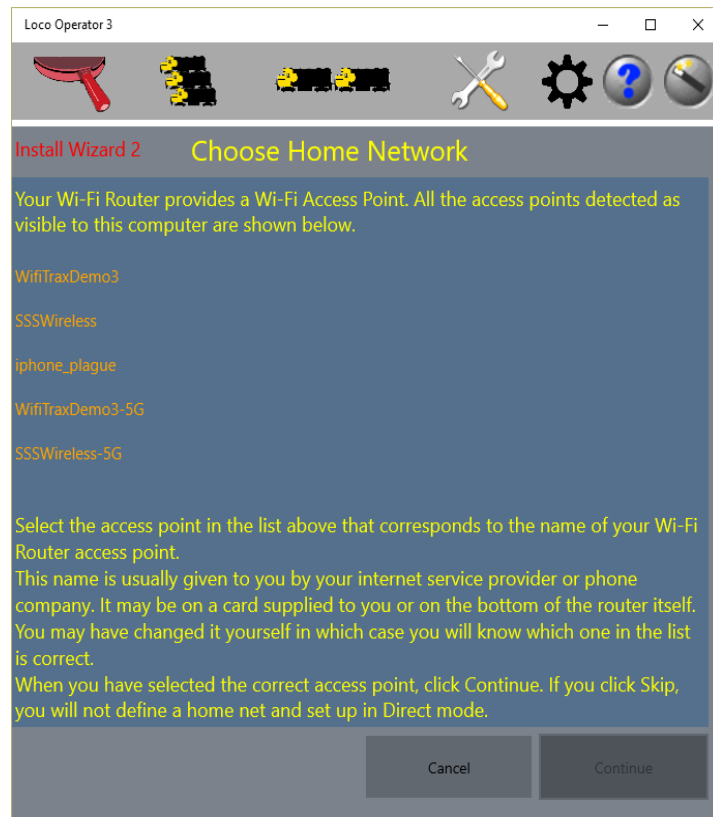

Figure 41 Selecting a Wi-Fi Access Point for your Home Net
- (3) Install Wizard 2 is now displayed as in Figure 41. Select the network in the list that corresponds to the name of your home Wi-Fi access point. This is called the SSID. You will be using the same SSID when you connect your phone or tablet to your home Wi-Fi network. Select the correct network and click Continue.